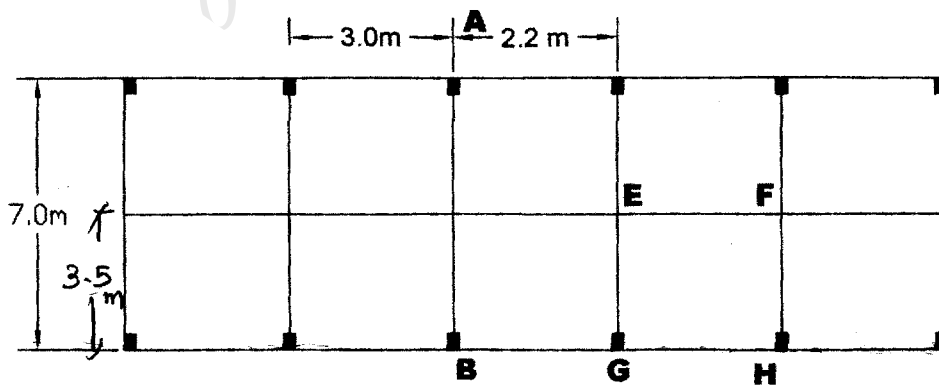

Fig. 1
- (1) Performance of steel structure is better than that of a concrete structures in an earthquake zone.
- (2) Load carrying capacity of compression member, depends on the slenderness ratio.
- (3) An effective area of a member governs the load carrying capacity in compression.
- (4) Permissible deflection for a beam is span / 300.
- 6 Design a steel beam 'AB' - shown in Fig. 1. 14